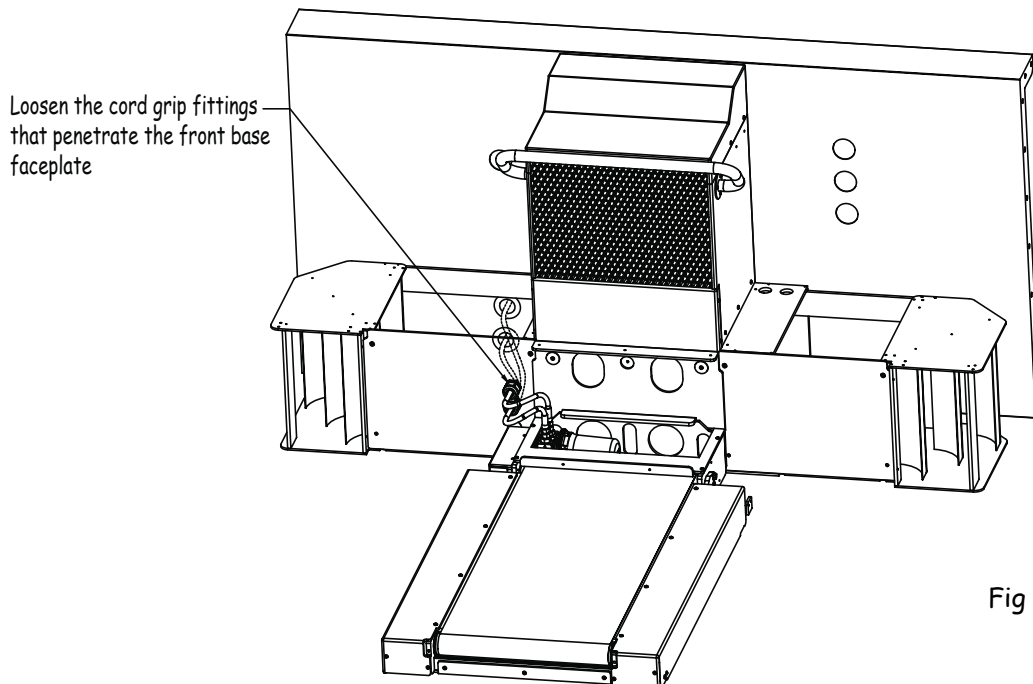

Fig 7
7. Loosen the cord grip fittings that penetrate the front base faceplate (Fig 7). Pull the hoses into the pool until there is enough slack to be able to maneuver the treadmill away from the front base faceplate.